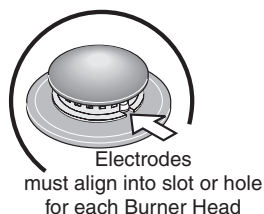
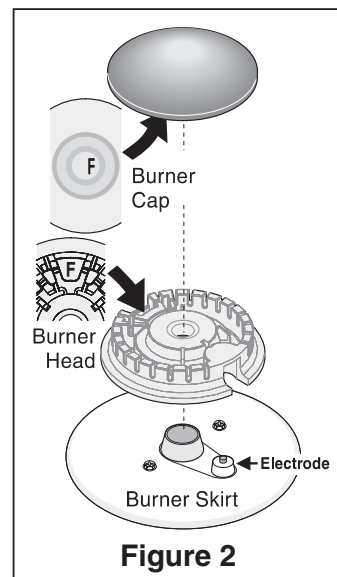

Figure 1
Figure 2
4. Match the letters stamped on Burner skirts with Burner Heads and Burner Caps on cooktop (See Figure 2). Carefully align the Electrodes into slots or holes of the Burner Heads (Figure 1). Note: The Burner Heads should sit flat on Cooktop Burner Skirts.